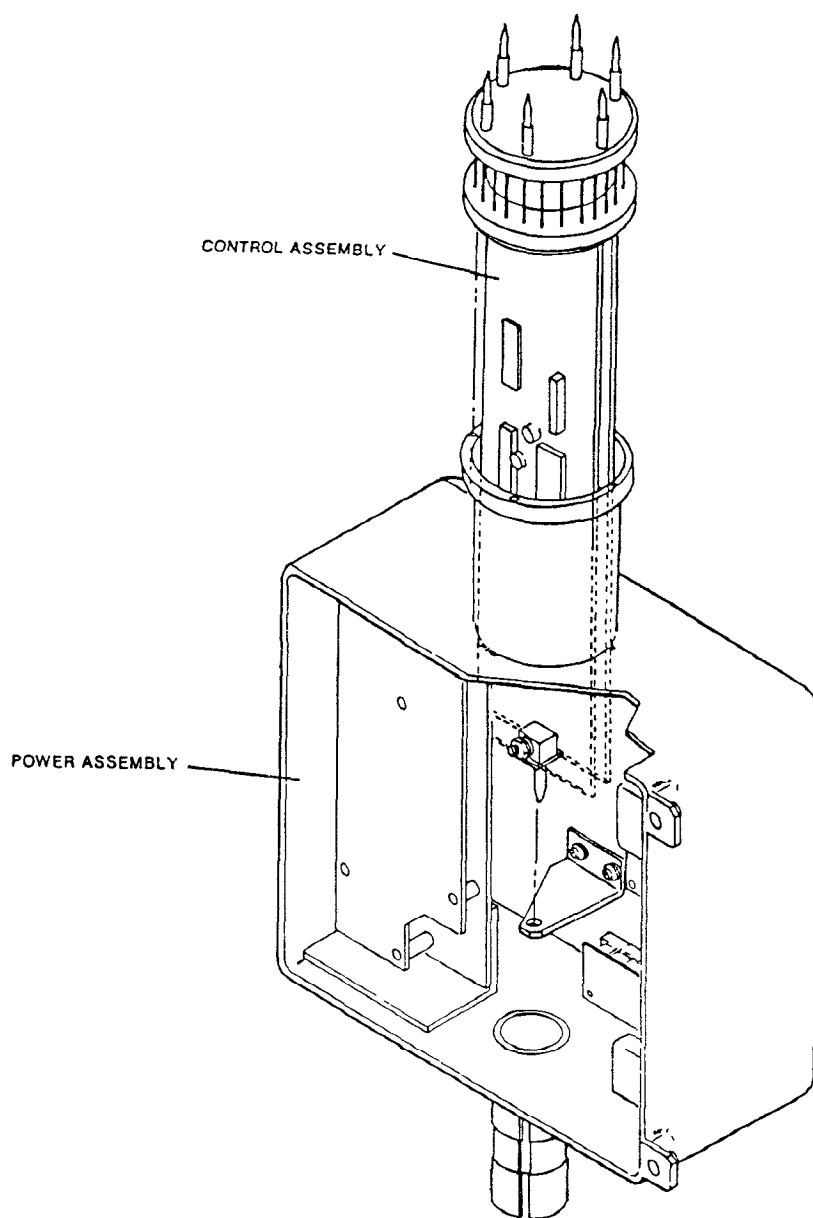
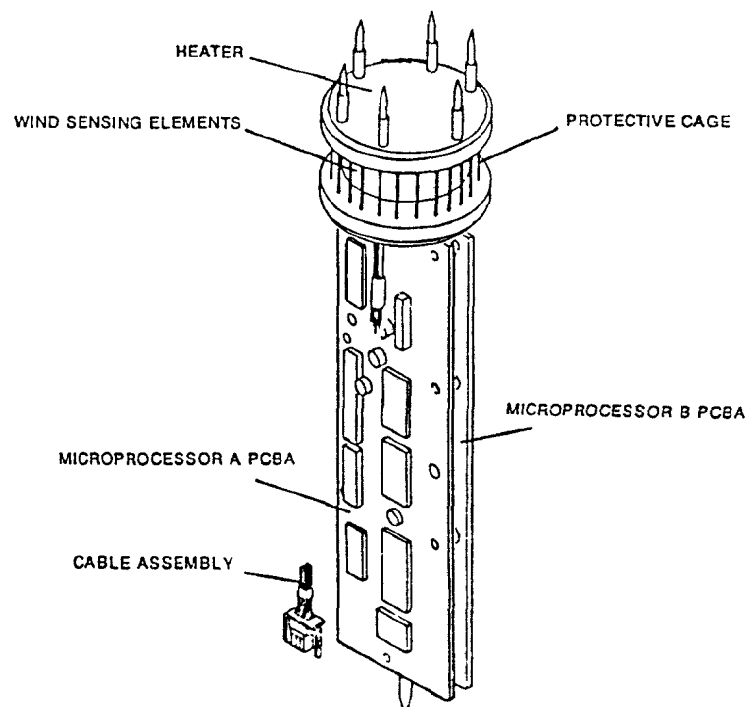

FIGURE 1-2. Wind Speed and Direction Sensor
FIGURE 1-3. Wind Speed and Direction Sensor, Control Assembly
**1-2.1 Sensor.** (See FIGURES 1-2, 1-3 and 1-4.) The wind measuring set can be configured with either a standard sensor or ruggedized sensor. Both sensors provide the capability of measuring wind direction from 0-360 degrees. In addition, the ruggedized sensor provides the capability of measuring wind speed from 0-150 knots, while the standard sensor provides the capability of measuring wind speed from 0-99 knots. Both sensors are identical except for the EPROM (Erasable Programmable Read Only Memory) which contains the temperature vs resistance data of the temperature circuit, voltage vs barometric pressure relationship of the barometric pressure circuit, gains and offsets for the D/A (digital-to-analog) and A/D (analog-to-digital) convertors, and the calibration data for the sensor. The EPROM in the ruggedized sensor is characterized by a wider range of performance characteristics.
Each sensor (FIGURE 1-2) consists of a control assembly and a power assembly. The control assembly (FIGURE 1-3) includes a protective cage which mounts two pairs (X and Y) of thick film platinum elements mounted perpendicular to each other. The X pair of elements is the East-West pair. The Y pair of elements is the North-South pair. By using two pairs of elements at right angles to each other, it is possible to calculate wind direction and speed .